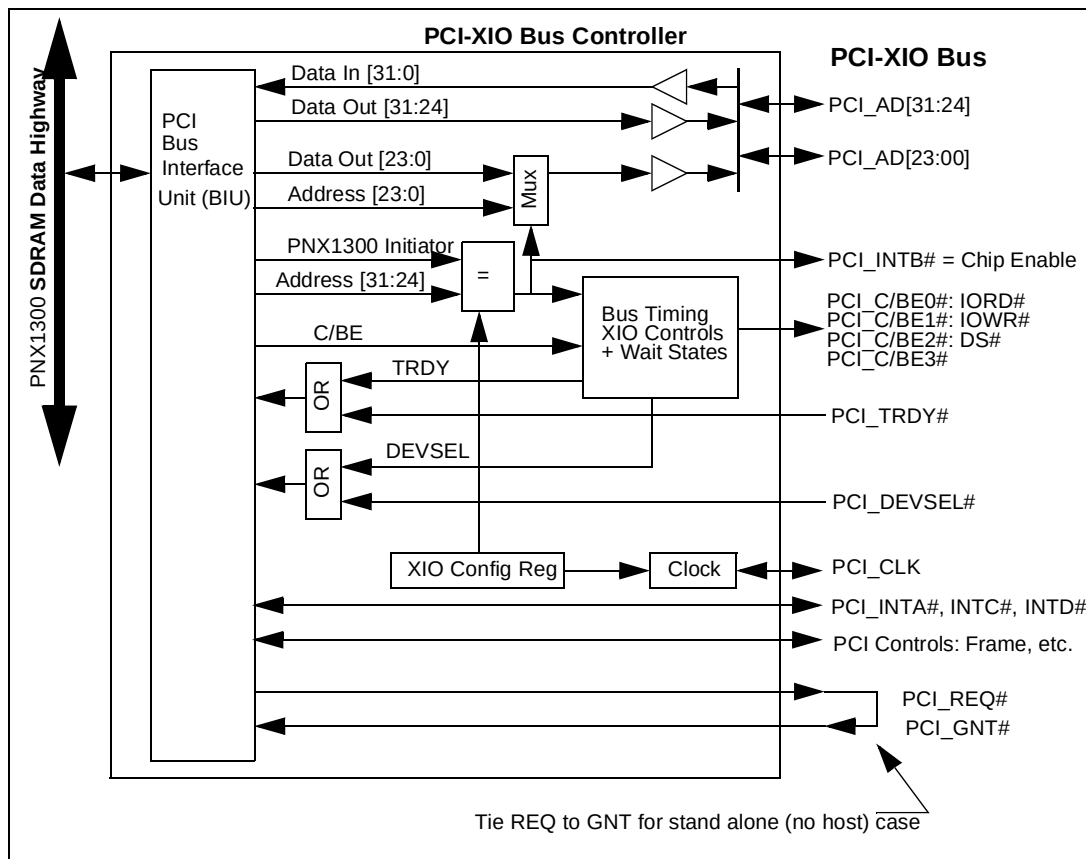

Figure 22-4. PCI-XIO Bus interface controller block diagram
**Figure 22-4** shows a more detailed block diagram of the PCI-XIO Bus controller.